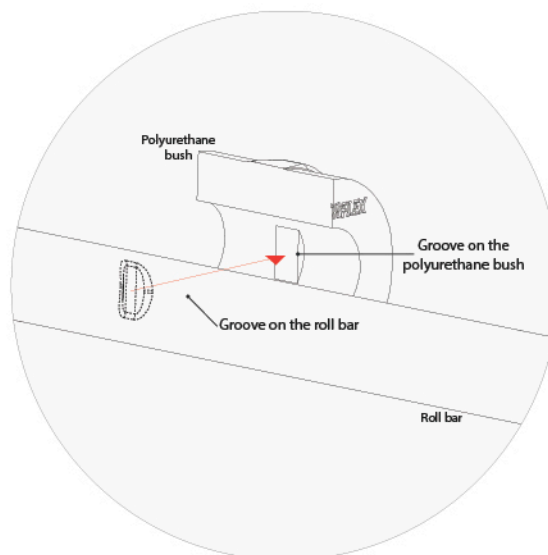

Figure 1 - shows the positioning of the polyurethane bush to the roll bar where the red arrow shows the correct line up of the two parts
3. Gently pry open the polyurethane bushes and mount over the roll bar, making sure the groove feature inside the bore of the polyurethane bush lines up with the groove on the roll bar (this restricts any horizontal movement), as shown in Figure 1.